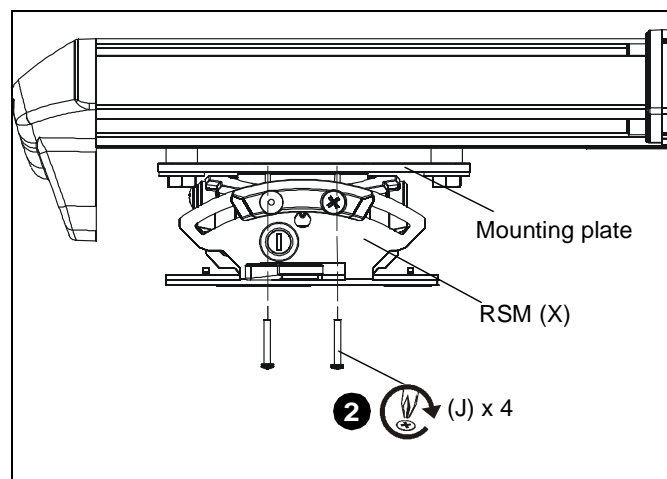

Figure 19
2. Install four #10-24 x 1-3/8" Phillips pan machine screws (J) through RSM holes and into projector mounting plate. (See Figure 19)